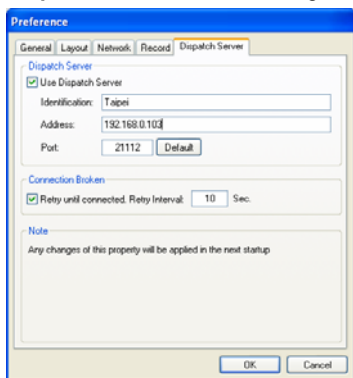

Figure 2-4
- **Server Port:** The port should match with the Center Port of the subscriber (Figure 1-13) and Dispatch Server Port of Center V2 (Figure 2-4) (All the three ports should match with each other). Or, keep the port setting as default.
3. If you have arranged Center V2 servers and subscribers into groups in Dispatch Server, click the **Network** tab in Figure 2-4 and check the **Location Name** of the Center V2. The location name should match the server name created on Dispatch Server.